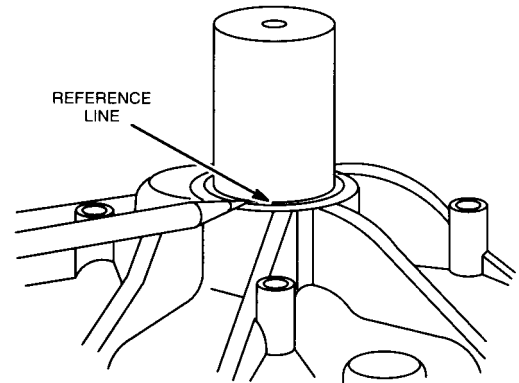

Fig. 6 - Remove Mag Bearing
1. Place cylinder on cylinder support, Briggs Tool P/N19227 with large opening facing DU bearing, Fig. 6.